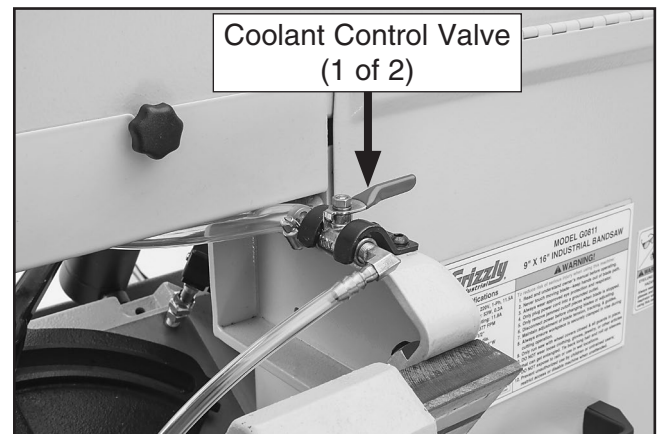

Figure 41. Coolant control valve closed.
4. Make sure coolant control valves are closed (see **Figure 41**).
6. Adjust coolant control hose valves to control flow of coolant (see **Figure 41**). Make sure pressure is not so high that coolant spills on floor and creates slipping hazard. When bandsaw reaches bottom of cut, motor and coolant system automatically shut **OFF**.